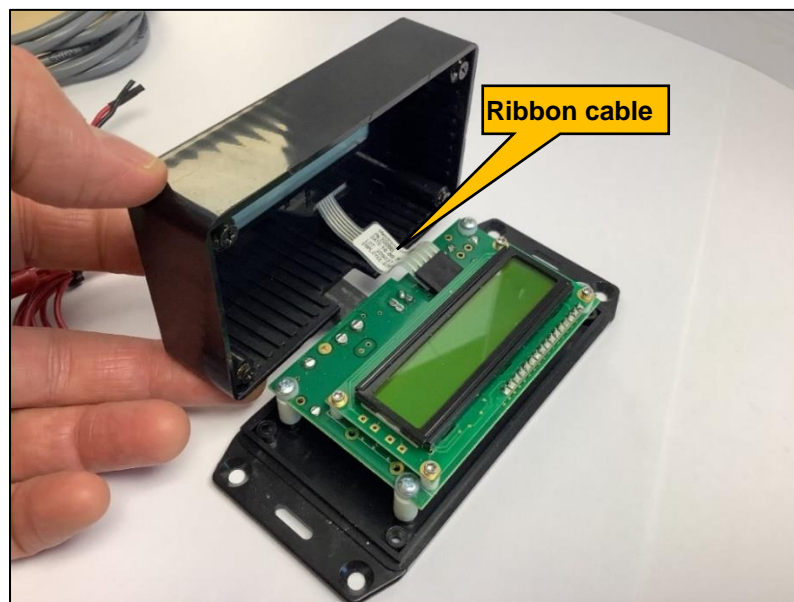

Figure 2
- Lift the top of the control box straight up and rotate the top of the control box like a clam shell. (Figure 2).